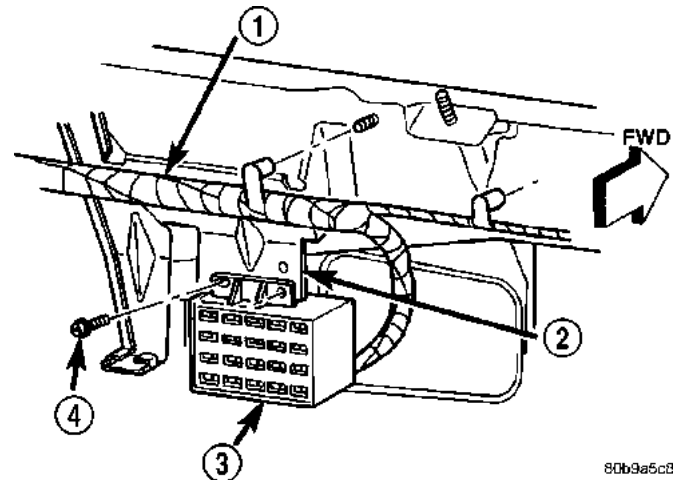

Fig. 4 Fuseblock Module Remove/Install
(2) Remove the instrument panel assembly from the dash panel (Refer to 23 - BODY/INSTRUMENT PANEL/INSTRUMENT PANEL ASSEMBLY - REMOVAL).
(3) Disconnect each of the body wire harness connectors. Refer to **Connector Locations** in Wiring for the location of the body wire harness connector locations.
(4) Remove all of the fasteners that secure each of the body wire harness ground eyelets to the vehicle body and chassis components. Refer to **Connector Locations** in Wiring for the location of the body wire harness ground locations.
(5) Disengage each of the retainers that secure the body wire harness to the vehicle body and chassis components. Refer to **Connector Locations** in Wiring for the location of the body wire harness retainer locations.
(6) Remove the two screws that secure the fuseblock module to the bracket on the dash panel (Fig. 4).
(7) Remove the fuseblock module and the body wire harness from the dash panel as a unit.